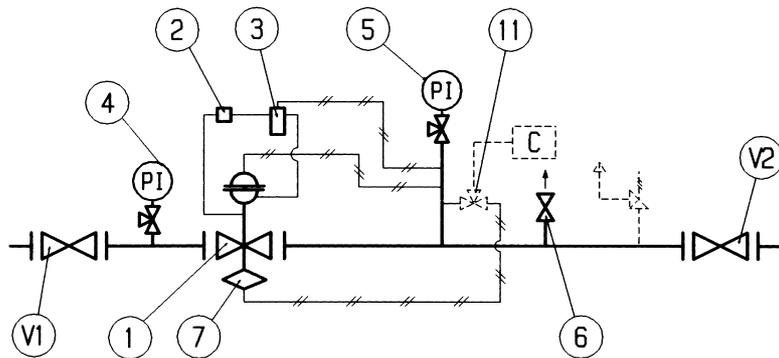

Fig. 13
6.1 PUESTA EN SERVICIO DEL REGULADOR CON VALVULA DE BLOQUEO INCORPORADA SB/82 (FIG. 13)
6.1 INSTALAÇÃO COM REGULADOR E VÁLVULA SEGURANÇA INCORPORADA SB/82 (FIG. 13)